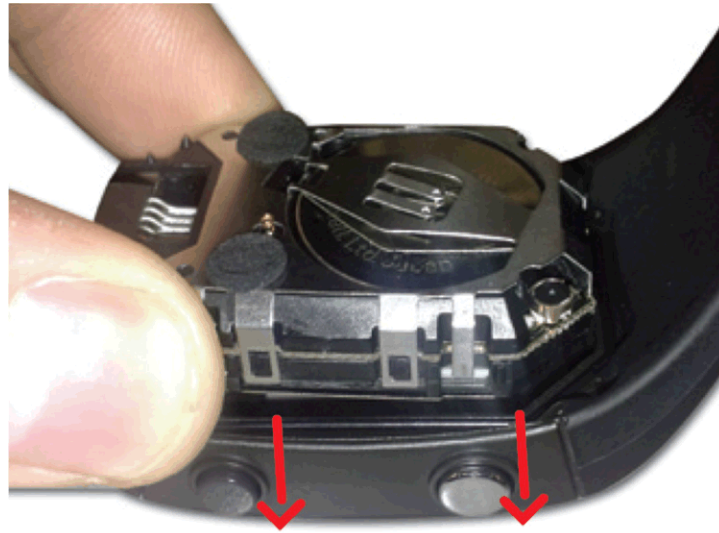
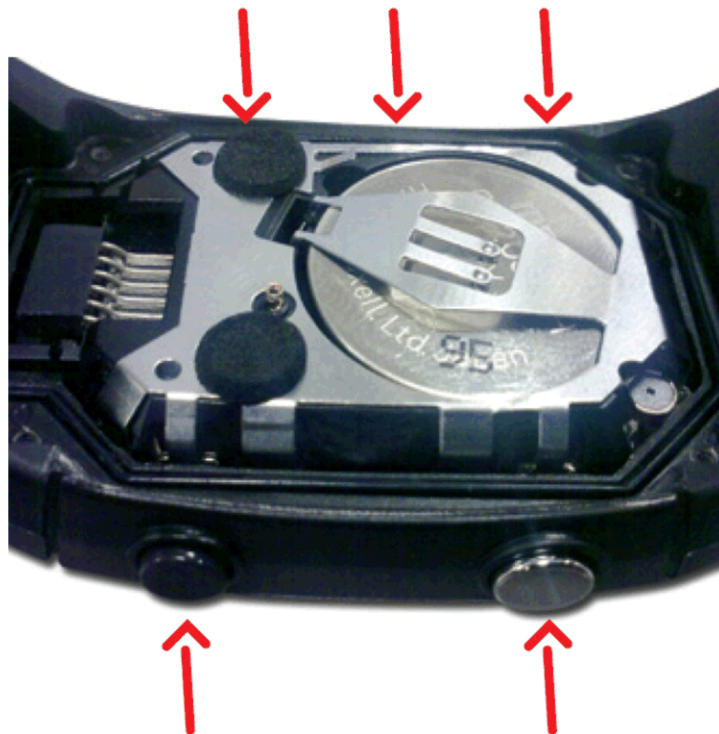

Figure 4-4. eZ430-Chronos Module Insertion Into Housing
Figure 4-5. Metal Strips of Chronos Module Housing and Buttons of Housing
2. Gently insert Chronos module into the housing. Insert it in parallel to the housing. Do not try to insert one side first (see Figure 4-4). Ensure that the small metal strips of the buttons on Chronos module slide over buttons of the housing (see Figure 4-5).